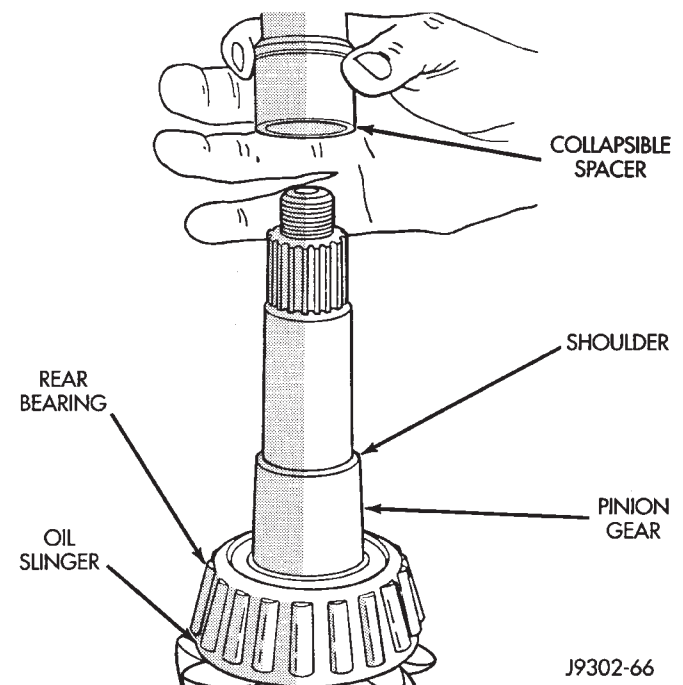

Fig. 49 Collapsible Spacer
(11) Remove the collapsible preload spacer (Fig. 49).